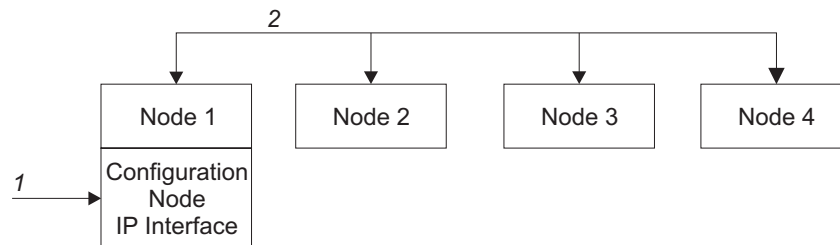

Figure 1. Configuration node
Figure 1 shows an example cluster containing four nodes. Node 1 has been designated the configuration node. User requests (1) are targeted at Node 1. This can cause requests that are targeted at the other nodes in the cluster to have their data returned to Node 1.